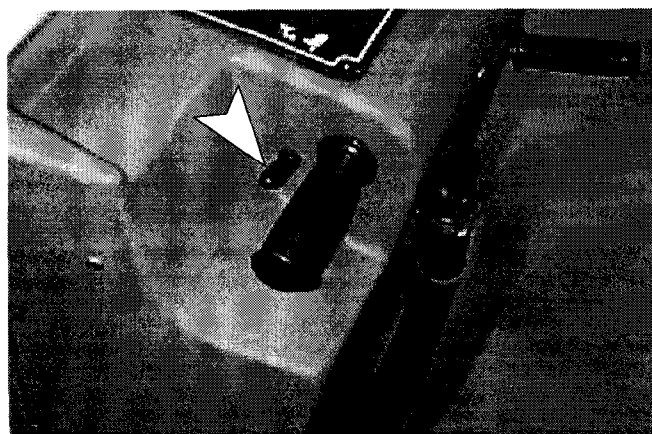

FIG. 14.
6. To operate machine in reverse, simply pull reverse switch backwards (one speed). (Figure 14)